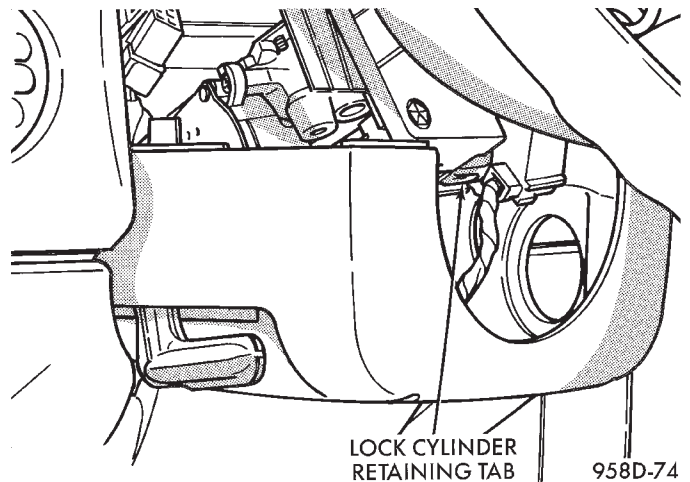

Fig. 63 Lock Cylinder Retaining Tab
- (1) Disconnect negative cable from auxillary jumper terminal.
- (2) Remove upper steering column shroud.
- (3) Pull lower shroud down far enough to access lock cylinder retaining tab.
- (4) Place key cylinder in RUN position. Depress retaining tab and remove key cylinder (Fig. 63).